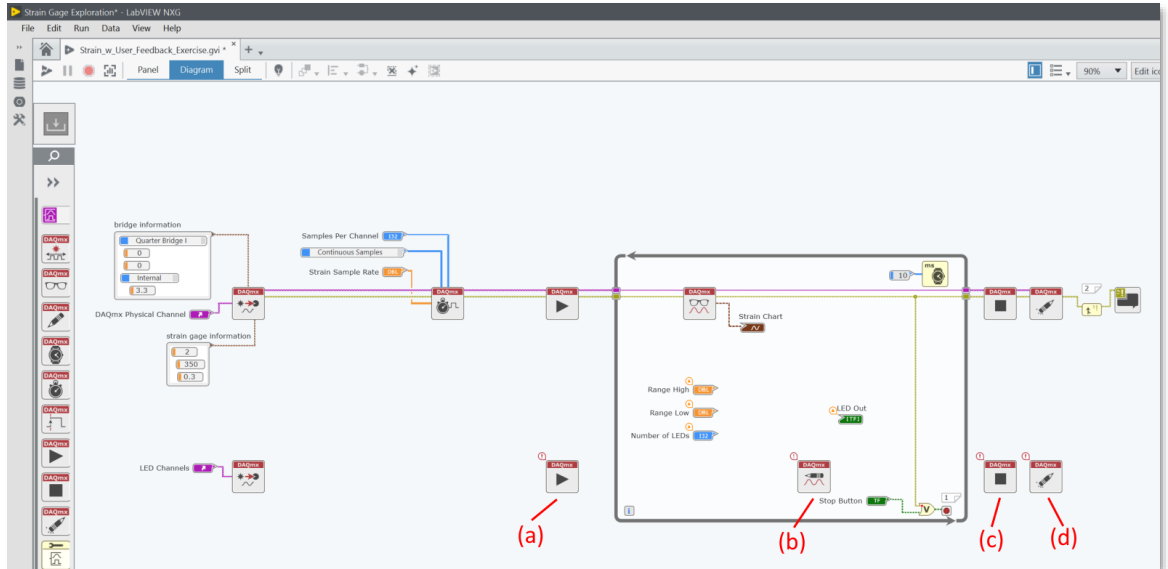

Figure 5-29 These VIs should look familiar – nearly all DAQ programs will follow this pattern.
13. Drag the following VIs from the DAQmx palette and place them as shown in Figure 5-29.